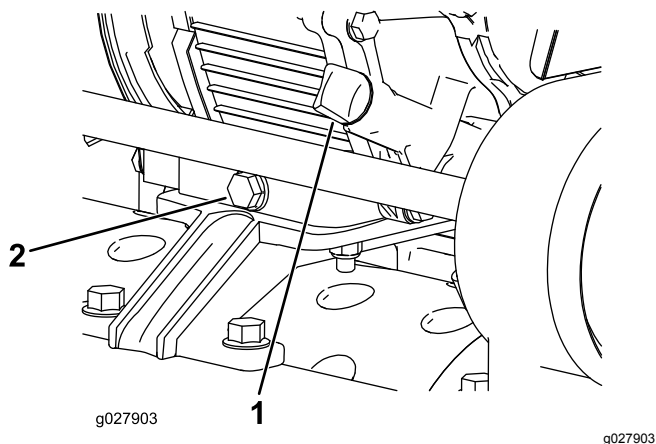

Figure 29
1. Park the machine on a level surface and clean the area around the oil-level gauge (Figure 29).
2. At the rear of the machine, place a drain pan under the drain plug (Figure 29). Loosen the drain plug.